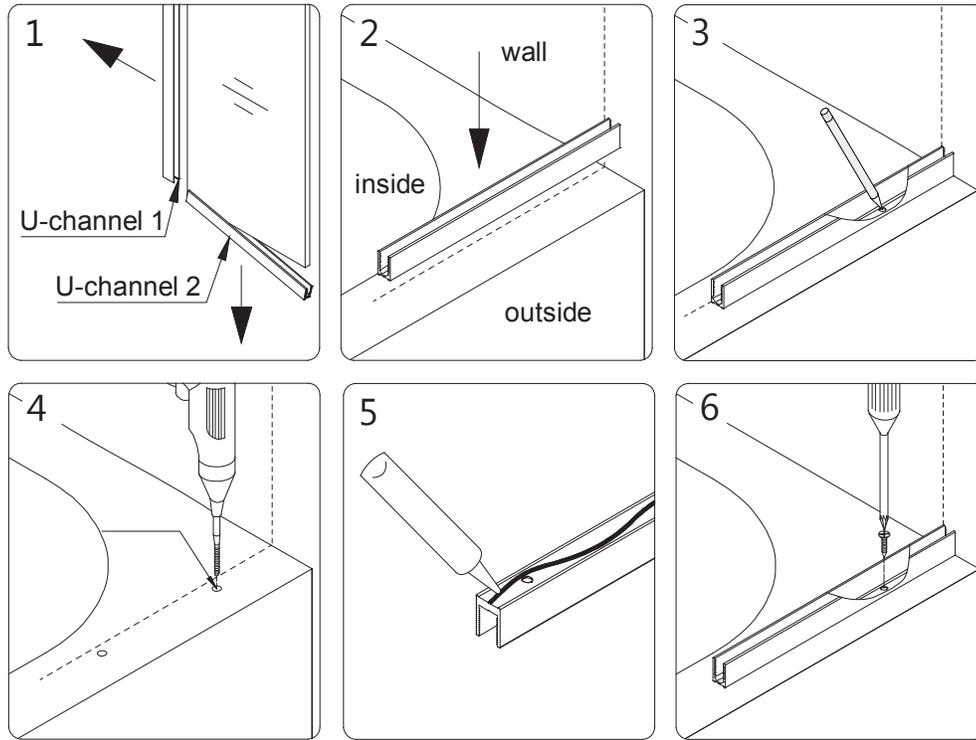

Fig 3
2. Remove the U-Channel 1 (wall profile) (#01) and U-Channel 2 (bottom profile) (#02) from the Extender Panel Glass (#03) and carefully set the Extender Panel Glass (#03) aside. Place the U-Channel 2 (bottom profile) (#02) back onto the tub surface in line with the inside U-Channel mark. Mark the drill holes on the tub surface through the pre-drilled holes in the U-Channel 2 (bottom profile) (#02) and drill the holes using an $\text{\O}1/8''$ drill bit. Apply waterproof silicone along the bottom surface and around the holes of the U-Channel 2 (bottom profile) (#02) and fasten it to the tub surface with the Countersunk Screws $\text{ST4.2}\times 25$ (#06). (Fig 3)